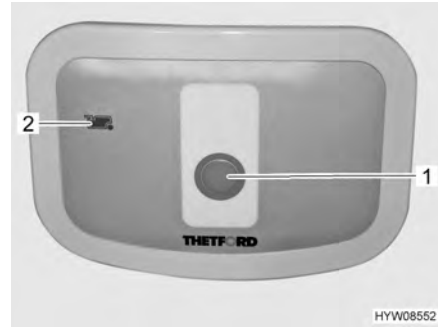

Fig. 107 Flush button/indicator lamp (Thetford toilet)
- For flushing, press the blue flush button (Fig. 107,1).
The indicator lamp (Fig. 107,2) lights up whenever the sewage tank has to be emptied.